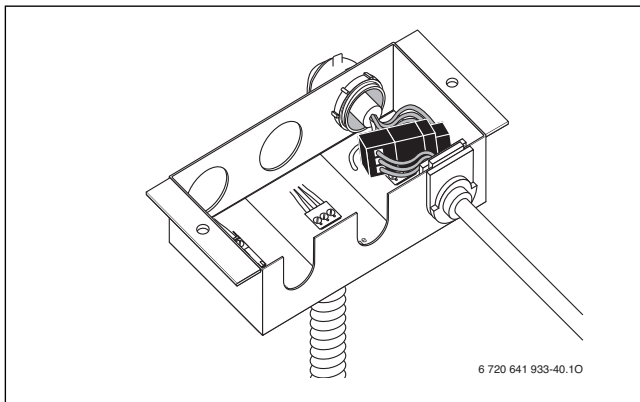

Fig. 55 Cable connected (external pump)
- Insert cable into the junction box as shown in Fig. 55.